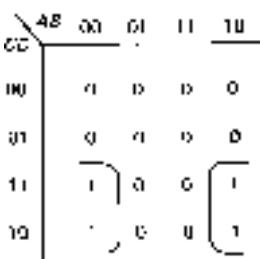

Figure 8.29
3. The edges of the Karnaugh map connect up. For instance, the map in Figure 8.29 is described by  $Q = B'C$ .